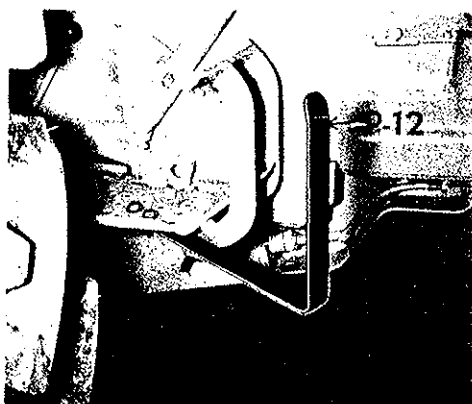

Figure 1
1. Bolt the P-12 pedal guard to the right step. See Figure 1.